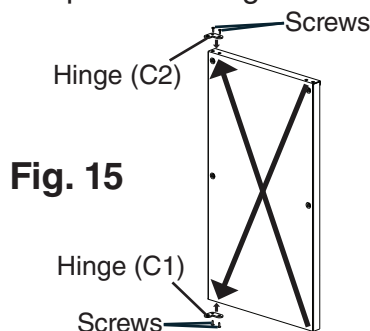

Fig. 15
- Remove hinge (C1) from the top right part of the door, flip it and reattach to the bottom left. Remove hinge (C2) from the bottom right part of the door, flip it and reattach to the top left. See Fig. 15. Proceed to step 7.